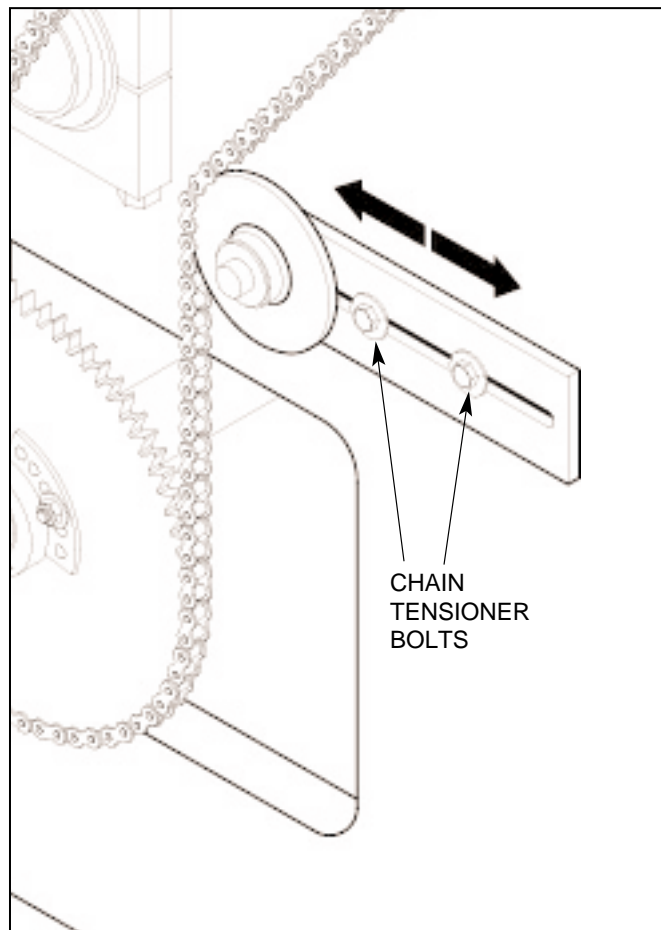

Figure 4.13 LOOSENING CHAIN TENSIONER
4.1.20 Loosen the pallet feeder drive chain tensioner by unscrewing the two bolts and loosening the tensioner. Disconnect the drive chain and remove from the feeder sprocket (see figure 4.13).
- 4.1.25 Reconnect the pallet feeder drive chain (change number of links if necessary) and adjust the chain tensioner assembly (see figure 4.13).